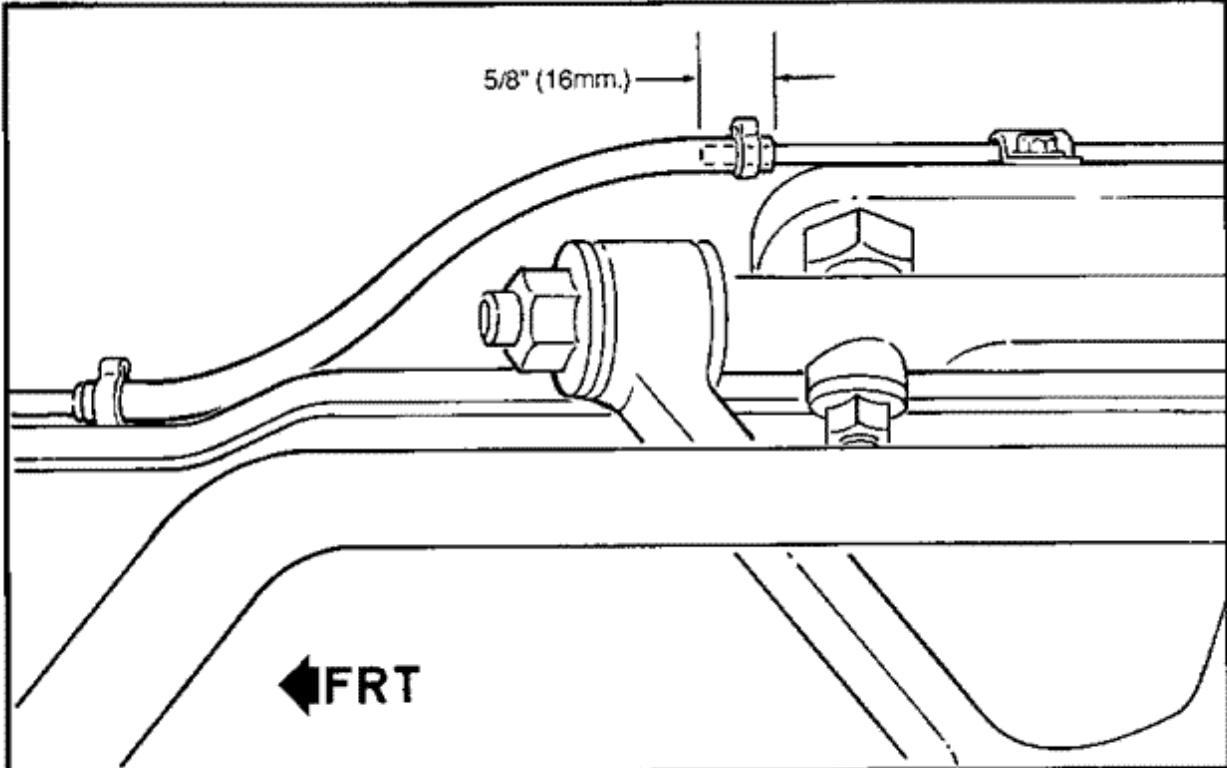

FIGURE 2
5. Install two (2) new clamps (P/N 01622744) and new hose (P/N 09442928) onto pipe ends. Insuring hose is positioned an equal distance over both ends. Position clamps onto hose and secure.
7. Underhood, locate the evaporative emission hose connecting chassis fore/aft evaporative emission pipe to evaporative emission line shown in Figure 2.
10. Install larger end of new hose (P/N 10248651) over nylon evaporative emission line and install the opposite end approximately 1/2" over the fore/aft chassis pipe as illustrated in Figure 2.